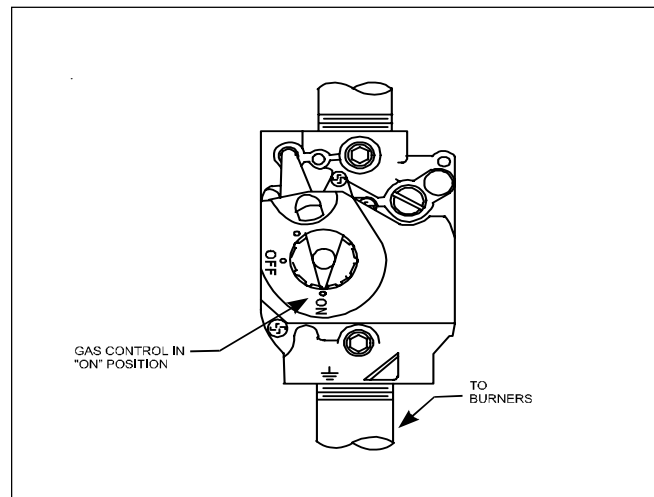

FIGURE 22. GAS VALVE
4. Turn the gas valve control knob counterclockwise to ON (see Figure 22.)